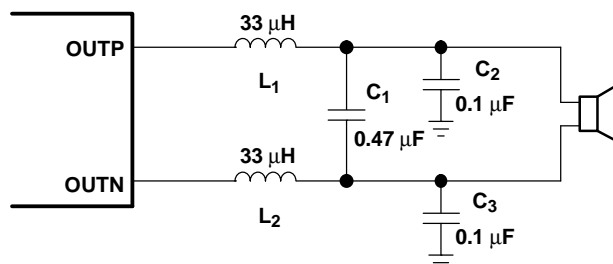
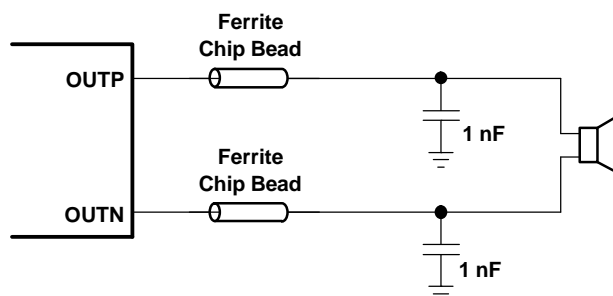

Figure 19. Typical LC Output Filter, Cutoff Frequency of 27 kHz, Speaker Impedance = 8  $\Omega$
Figure 20. Typical Ferrite Chip Bead Filter (Chip bead example: Fair-Rite 2512067007Y3)
- **Output filter**—The ferrite EMI filter (Figure 20) should be placed as close to the output terminals as possible for the best EMI performance. The LC filter (Figure 19) should be placed close to the outputs. The capacitors used in both the ferrite and LC filters should be grounded to power ground. If both filters are used, the LC filter should be placed first, following the outputs.